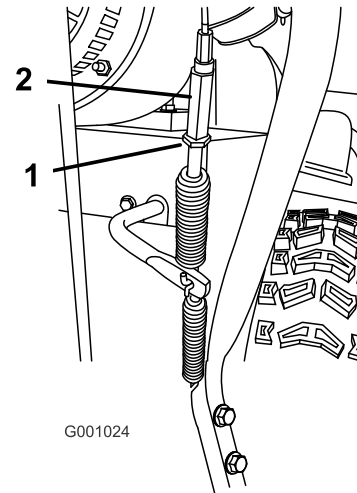

Figure 50
5. Loosen the jam nut (Figure 50).
6. Loosen or tighten the turnbuckle that adjusts the tension on the cable (Figure 50).